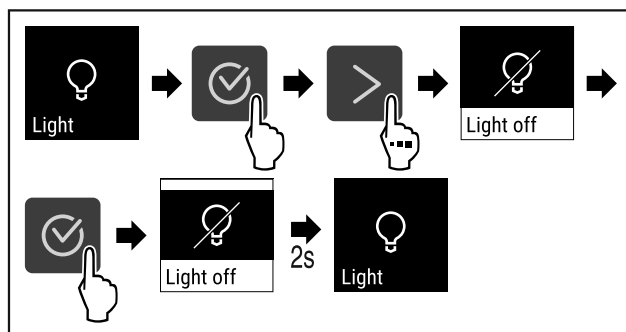

Fig. 67
- ▶ Carry out steps (see Fig. 67).